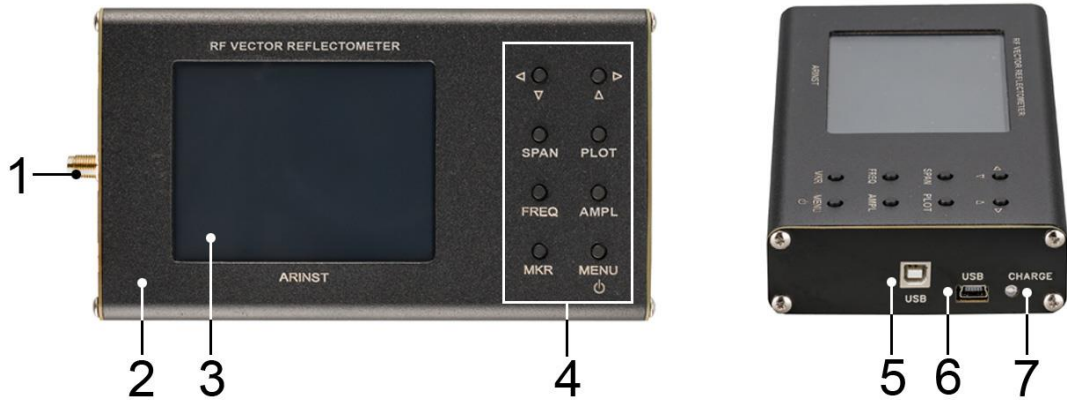

Figure 5.1 – External view of the device
5.1. The composition of the device is shown in Figure 5.1.